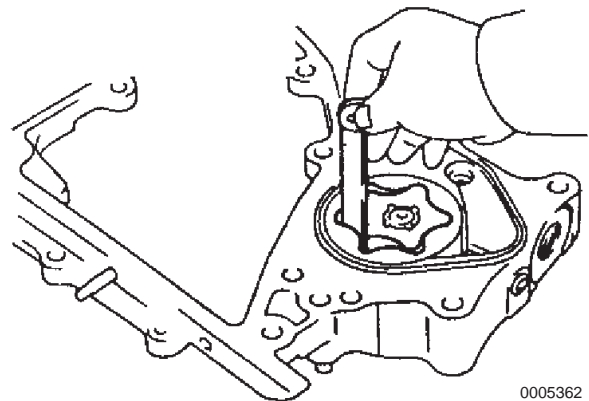

Figure 8-10
5. Check the clearance at the rotor tooth tip. Measure clearance at the tips of drive and driven rotors using a feeler gauge (**Figure 8-10**). If the measured clearance exceeds the specified maximum, replace the oil pump assembly.